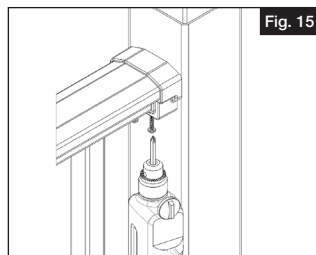

Fig. 15
- d. While tightly squeezing the bracket cover closed, pre-drill using a $\frac{5}{32}$ " drill bit through the two holes underneath. Then, drive two #10 x 1" square drive screws through the cover, metal bracket and into the top rail (Fig 15).